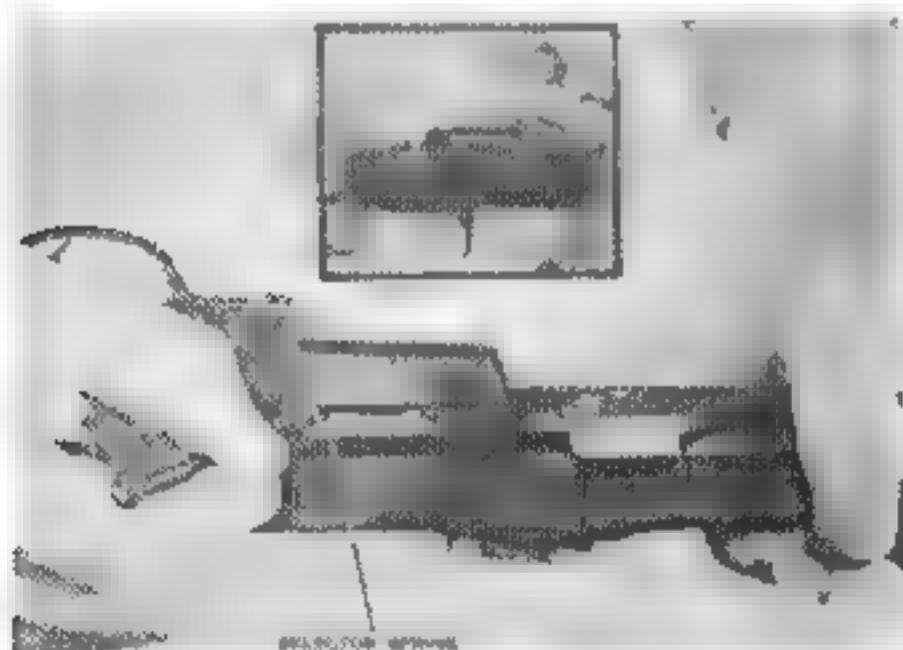

Figure 8. Removing the selector spring.
g. Now rotate the selector to the rear (semiautomatic setting). Insert the point of the operating slide spring guide into the loop of the selector spring (Fig. 8). Push the loop end downward opposite its dismount notch and remove the selector spring. Move the selector forward to the automatic setting. Slide the selector to the rear, disengaging the slot of the selector from the straddle slots on the trigger housing and selector pin.